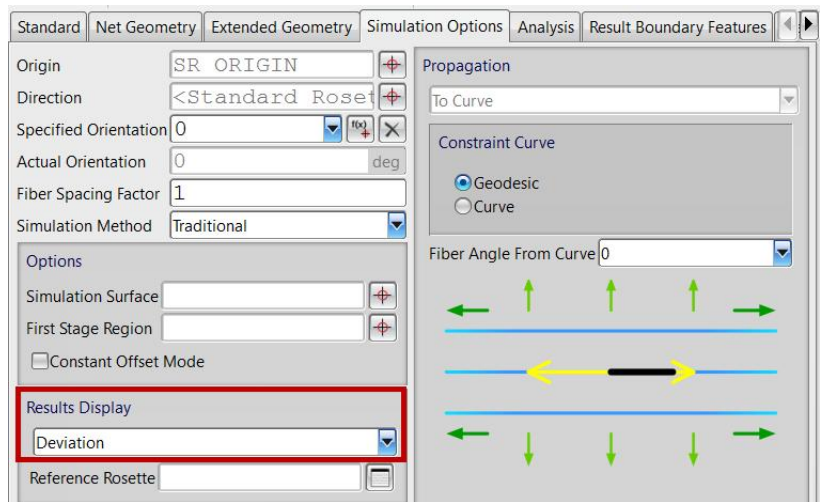

Figure 5–12
5. In the Result Display drop-down list, select **Deviation** as shown in Figure 5–12.
6. Click  (Net Producibility). The model should now display as shown in Figure 5–13.